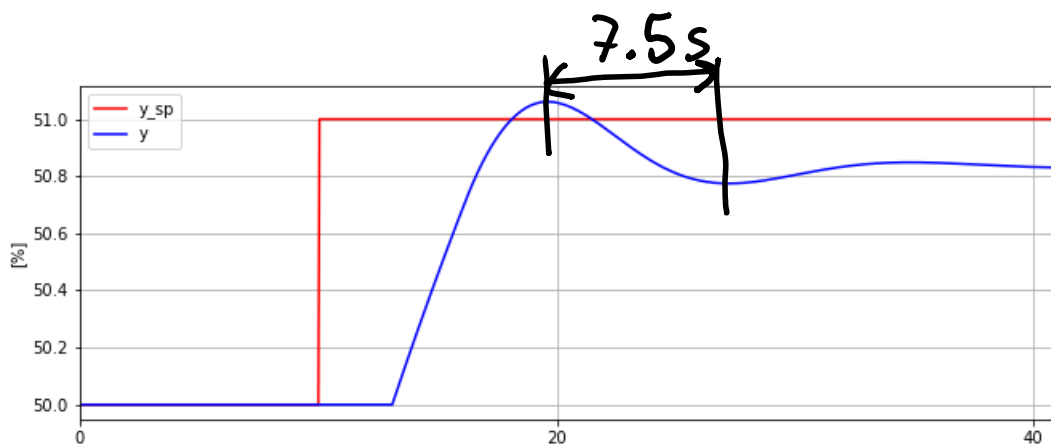

Figure 3
- a. (10 %) A “good gain” seems to be  $K_{cGG} = 5.0$ . Figure 3 shows the step response with  $K_c = K_{cGG}$  and  $T_i = \infty$ . From the response the  $T_{ou}$  is read off as  $T_{ou} = 7.5 \text{ s}$ , giving the following PI settings: